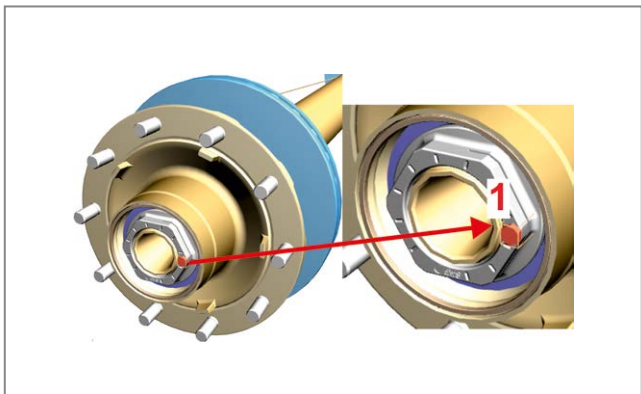

Fig. 13 - Tighten the locking screw
3. Tighten the locking screw ► *Fig. 13* -item 1- to the stipulated tightening torque ► *chapter 2.3*
- A new locking screw ► *Fig. 13* -item 1- must be used.
1. Remove both retaining rings -item 36B- using a screwdriver.
2. Remove the O-ring -item 39A.
3. Remove the inner sealing ring -item 38A- using a screwdriver.
6. Remove the outer sealing ring -item 38B- using a screwdriver.
9. Thoroughly clean the wheel hub housing -item 27- and install a completely new wheel bearing set ► *Fig. 13 „Removal of the wheel bearing set“*